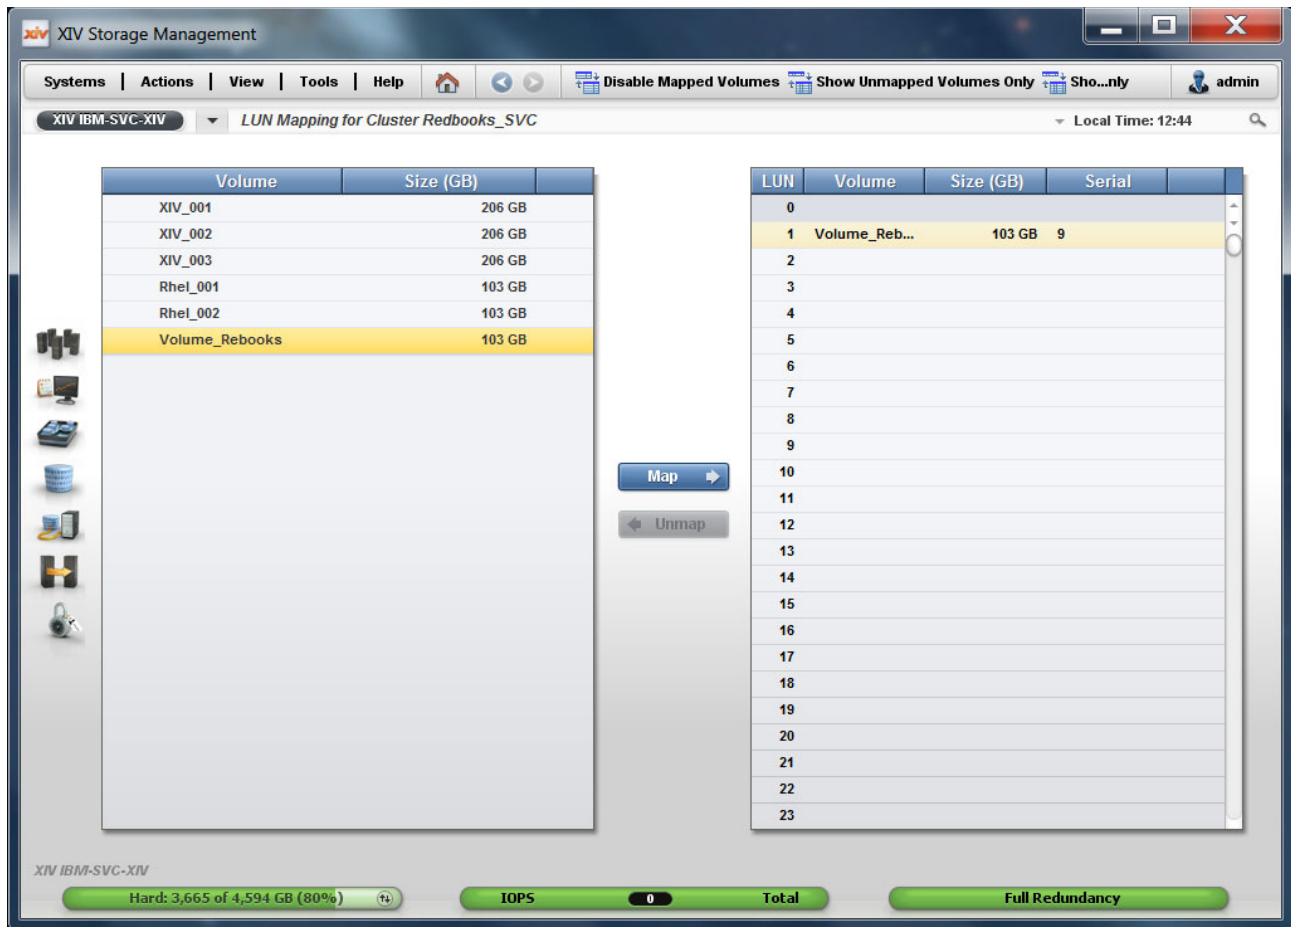

Figure 13-11 Selecting a LUN for mapping in the XIV GUI
2. The Volume to LUN Mapping window opens, as shown in Figure 13-11. Select the volume that will become an MDisk from the left pane. The GUI suggests a LUN ID to which to map the volume; there is no need to change it. Click **Map** and the volume is assigned immediately.